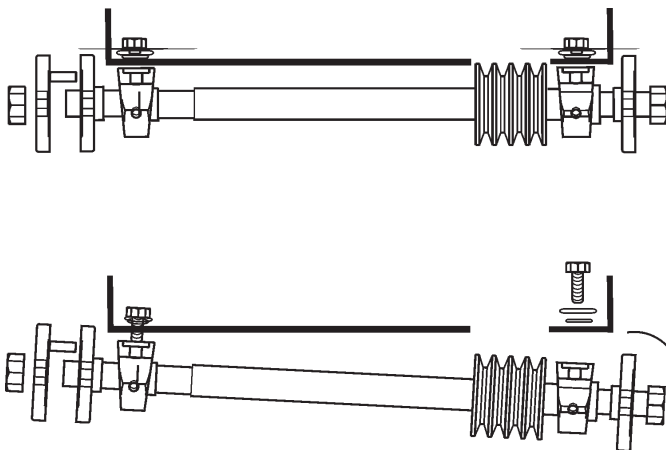

Figure 31. V-Belt Removal
1. Remove the Belt Guard (page 48, item 6), then loosen the tension of the V-Belts
2. Loosen the Engine Mount Carriage Bolt (page 46, item 7).
3. Loosen the (4) 1 1/2" HHC screws (page 46, item 4).
5. Loosen the (2) 3/4" HHC screws that support the Blade Shaft Bearings on the **right-side** of the saw (page 44, item 11, also see Figure 31).
6. Remove the (2) 3/4" HHC screws that secure the Blade Shaft Bearing on the **V-Belt side** of the saw (page 44, item 11, also see Figure 31).